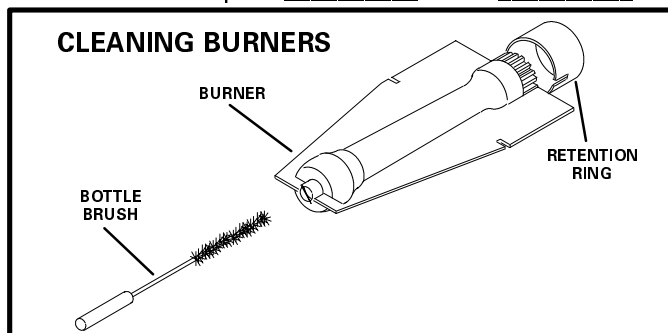

FIGURE 20
- 5 - Clean burner retention ring with wire brush as shown in figure 20.